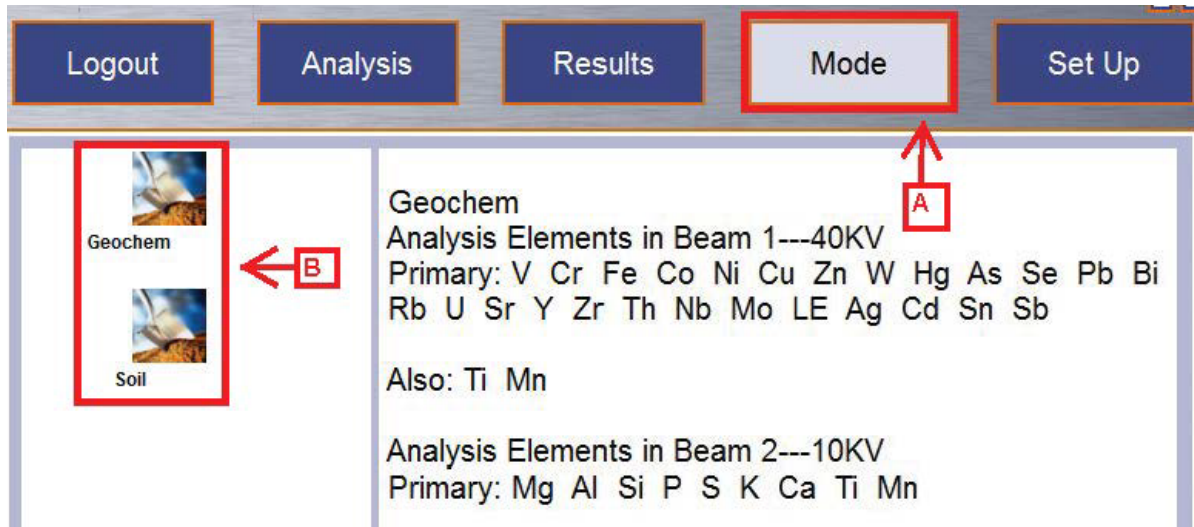

Figure 4. Mode Window. A. Mode Button to access the screen. B. Geochemistry and Soil Modes
- To access the Modes click on 'Mode' at the top of the screen (Figure 4). This directs you to the 'Mode' Screen and in the left panel you can choose between the Geochemistry and Soil modes. Click on each to see the features of each Mode and select the one best for your analysis.